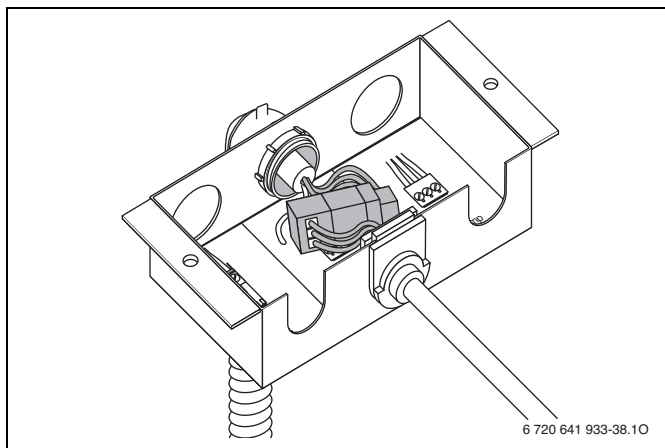

Fig. 48 Cable connected (external DHW tank loading pump or 3-way valve)
- ▶ Insert cable into the junction box as shown in Fig. 48.